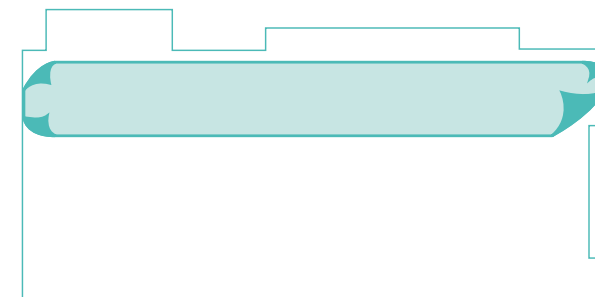

Figure 1 Lining up the first sheet
- > Adjust the lie of the sheet so that the inner edge is parallel with the axis of the room (fig. 1).